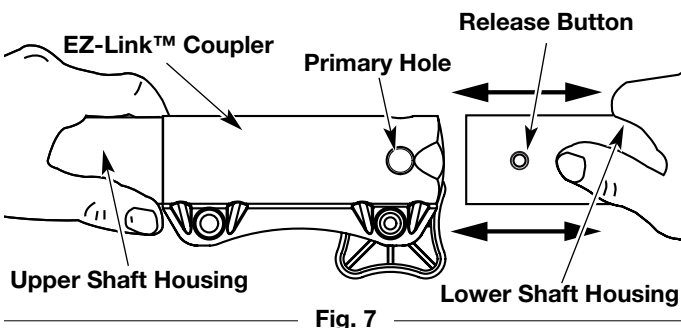

Fig. 7
3. While firmly holding the upper shaft housing, pull the cutting attachment or add-on straight out of the EZ-Link™ coupler (Fig. 7).
2. While firmly holding the add-on, push it straight into the EZ-Link™ coupler (Fig. 7).
CAUTION: Lock the release button in the primary hole (Fig. 7) and securely tighten the knob before operating this unit.